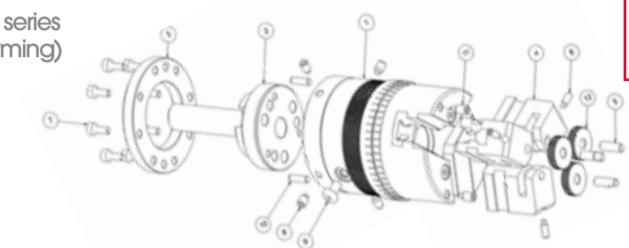
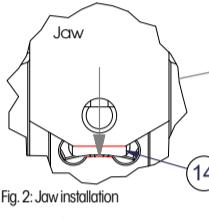
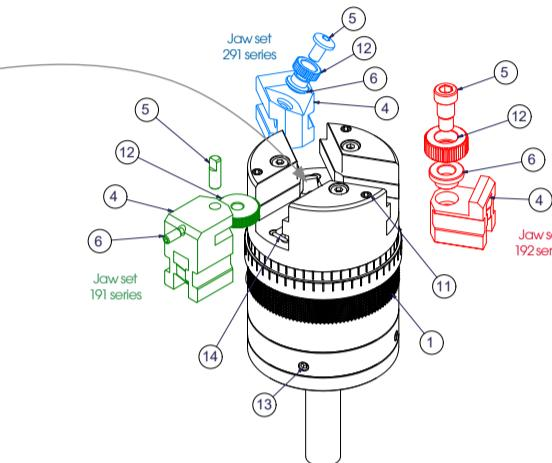

Fig. 1: Series 191 exploded drawing
Fig. 2: Jaw installation
Fig. 3: General view + jaw variants
Please specify the tool number and the corresponding position number (see Fig. 1).
Various jaws are pre-assembled depending on the tool type. Conversion between the milling machining process (291 series), forming (191 series) and forming up to a shoulder (192 series) can take place by using different jaw sets. These variants are shown in Figure 3.
If the jaw sets must be replaced, first remove the stop screw completely (Fig. 1, Pos. 9) and loosen the three threaded pins (Fig. 3, Pos. 11). Then turn the threaded bush (Fig. 1 + 3, Pos. 1) counterclockwise (CCW) until the knurling jaws (Fig. 1 + 3, Pos. 4) can be removed individually from the guide slot.
Vertical positioning of the tool is recommended for easier installation (pull knurling jaws upward, Fig. 3). Now slide the jaws (Fig. 1 + 3, Pos. 4) into the guide slots until the front edge of the jaw is flush with the surface of the recess facing inward (Fig. 2). Then, turn the threaded bush clockwise (CW) until the guide slot of the splined bush (Fig. 2 + 3, Pos. 14) engages in the jaws and pulls them together evenly. Screw in the stop screw again (Fig. 1, Pos. 9).
- Unscrew the fastening screw (Fig. 1, Pos. 9) and threaded pins (Fig. 1, Pos. 8; Fig. 3, Pos. 11)
- Unscrew the threaded bush (Fig. 1, Pos. 1; Fig. 3, Pos. 1) and move over the workpiece in the Z-direction
- Tighten the threaded (Fig. 1, Pos. 8) pins evenly
Replace the bearing bush (Fig. 3, Pos. 6; 192/291 series), knurling wheel (Fig. 3, Pos. 12), bearing screw (Fig. 3, Pos. 5; 192 series) and axle pin (Fig. 3, Pos. 5) after a reasonable number of cycles, no later than upon appearance of significant wear or deviating process parameters.
Loosen the threaded pin (Fig. 1 + 3, Pos. 6) and remove the axle pin (Fig. 1 + 3, Pos. 5). Change the knurling wheel (Fig. 3, Pos. 12) and fix it with the axle pin in the groove.
Completely loosen the bearing screw (Fig. 3, Pos. 5) and remove the knurling wheels (Fig. 3, Pos. 12). Fit new knurling wheels on the bearing bush (Fig. 3, Pos. 6) and fix with the bearing screw (cf. Figure 3).
Completely loosen the Torx screw (Fig. 3, Pos. 5) and remove it with the knurling wheel (Fig. 3, Pos. 12) and the bearing bush (Fig. 3, Pos. 6). Then fit a new knurling wheel on the bearing bush and tighten screw it together with the jaw (Fig. 3, Pos. 4) with the torx screw (cf. Figure 3).
For this purpose, loosen the fastening screw (Fig. 1, Pos. 9) and threaded pins (Fig. 1, Pos. 8) and turn the threaded bush (Fig. 1 + 3, Pos. 1) clockwise.
Then, firmly tighten the fastening screw (Fig. 1, Pos. 9) and threaded pins (Fig. 2, Pos. 8) for fixing the diameter (observe torque table, chapter 6).